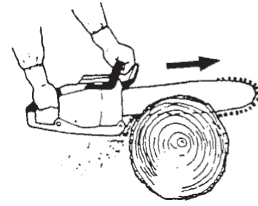

Fig. 22
- Never use the saw with only one hand. You cannot control the saw properly and you may lose control and injure yourself severely. Keep the saw body close to your body to improve control and reduce strain. When cutting with the bottom part of the chain the reactive force will pull the saw away from you towards the wood you are cutting. The saw will control the feeding speed and sawdust will be directed towards you. (Fig. 22)